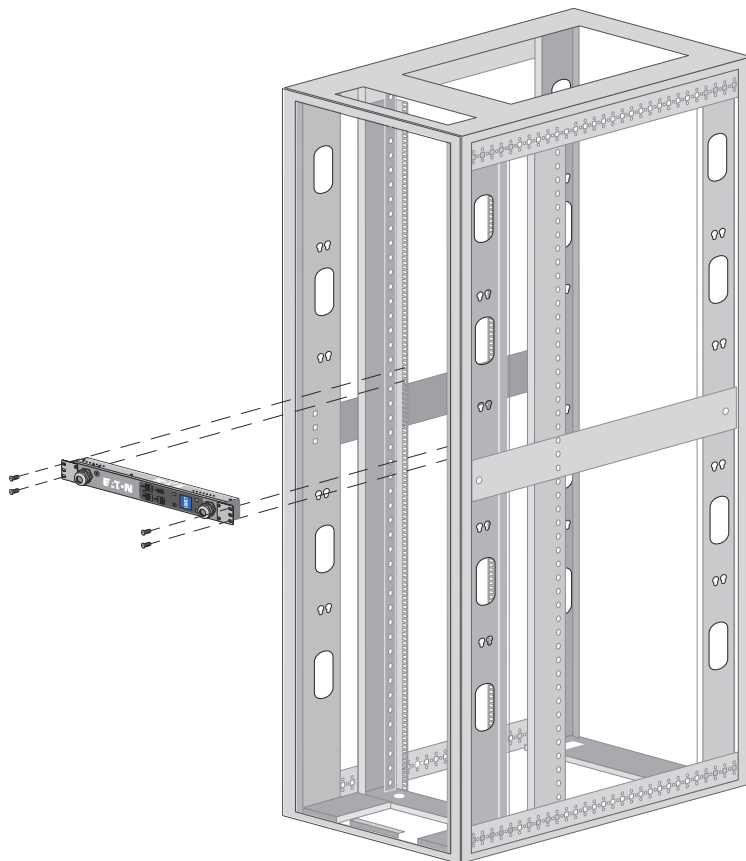

Figure 27. Installing Horizontal Models
3. **For all other racks.** Insert and tighten two M6 screws through the ears on each side of the ePDU (see Figure 27).